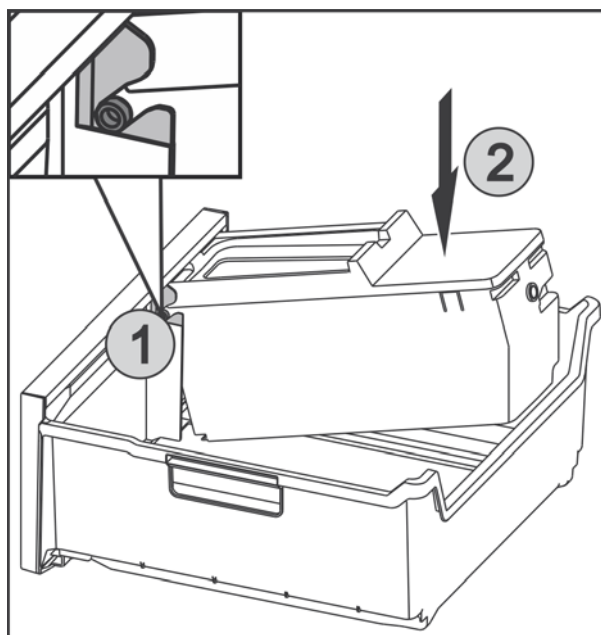

Fig. 41
- Insert the axles Fig. 41 (1) on the EasyTwist-Ice in the guides and push the rear side Fig. 41 (2) until the lug engages.